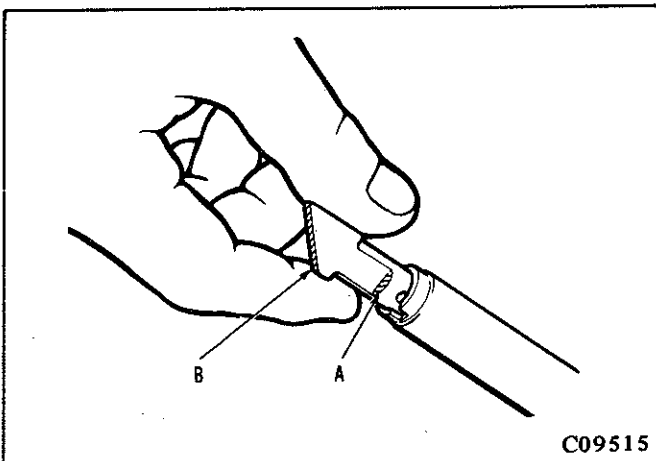

Fig. 5—Adjusting selector lever rod cam
(3) Place the selector lever in the "N" position. Install the cam on the selector lever rod and adjust until surface A of the cam (see Fig. 5) is level with the top of the selector lever tube and surface B is facing the push button side of the handle.